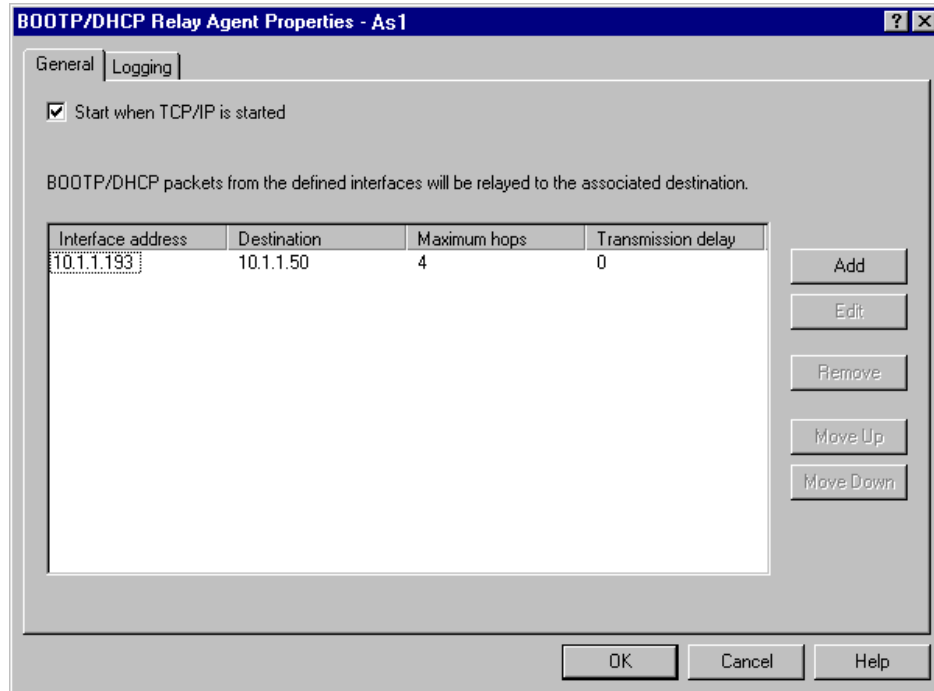

Figure 87. BOOTP/DHCP Relay Agent Configuration
10. Click **OK**. The resulting display is shown in Figure 87.